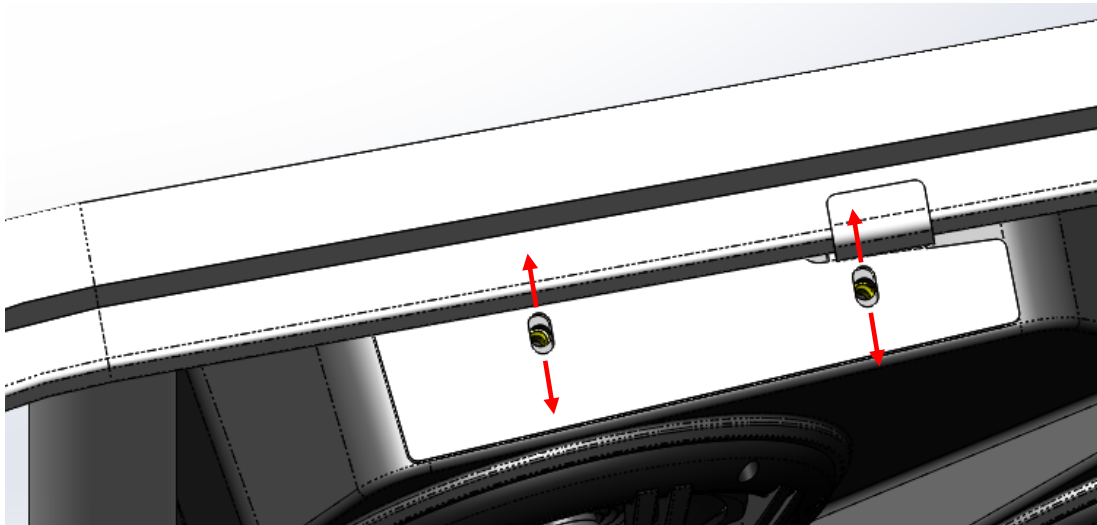
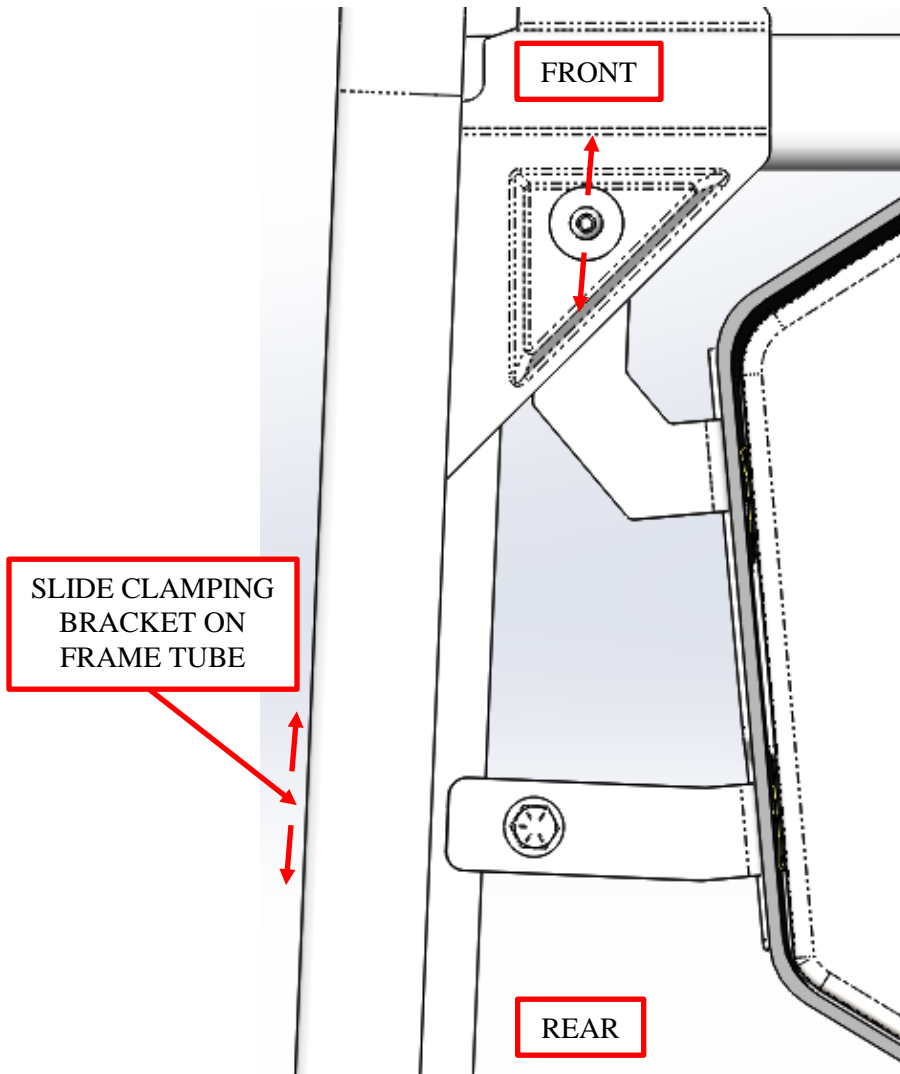
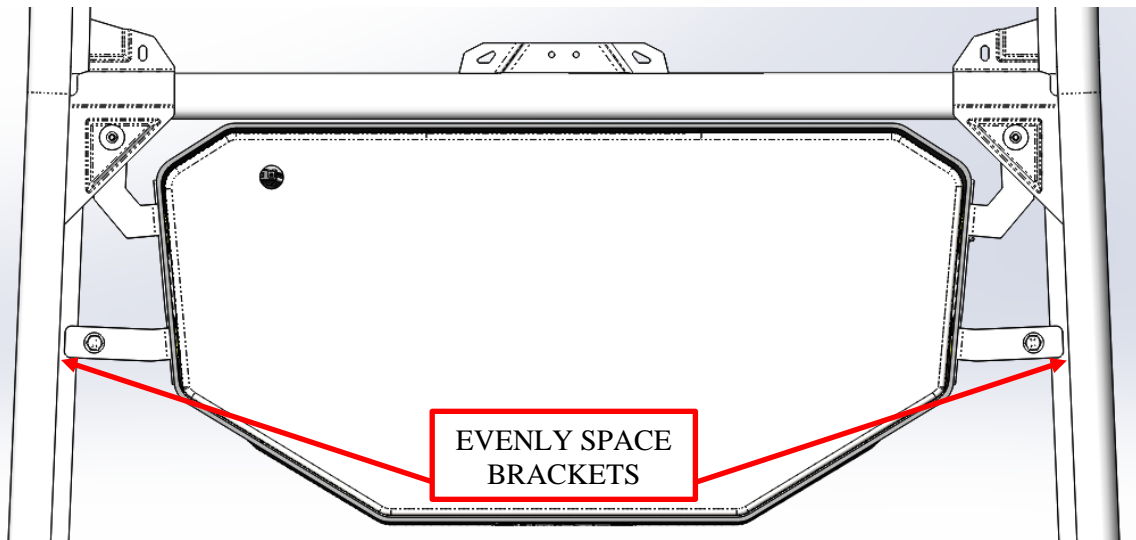

Figure 12: Adjustable up-down positioning of the *Audio Mini*.
Figure 13: Adjustable front-back positioning of the *Audio Mini*.
Figure 14: Evenly space the brackets from the frame.
9. Slots in the sides of the Audio Mini brackets allow up-down movement, while the slots in the front of the brackets allow front-back movement to achieve your desired position. Slide the clamping bracket on the frame tube with the bracket as you adjust front-to-back positioning. See Figure 12 and Figure 13. **Note: Be sure to evenly space the bracket tabs from the inner edges of the frame.** See Figure 14. Tighten the two front bracket bolts, both clamping bracket bolts, and the four mounting bracket bolts after achieving the desired viewing position.